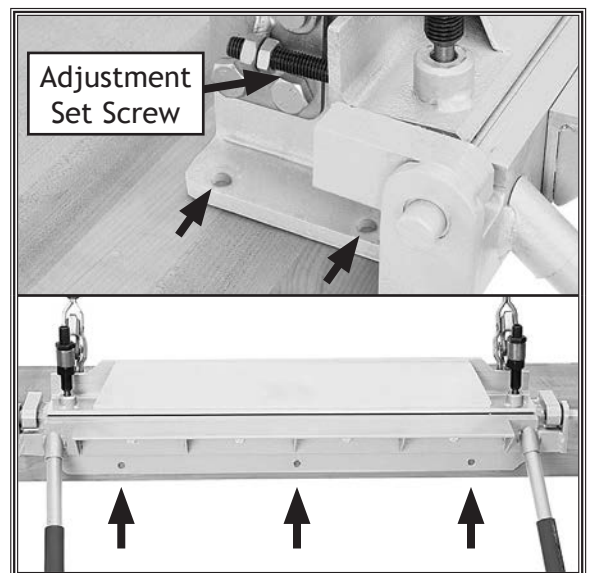

Figure 3. Mounting hole locations (right side of bending brake not shown).
1. Securely mount the bending brake assembly to a workbench or other stable surface using 8mm hex bolts, flat washers, lock washers and hex nuts. Mounting hole locations are indicated in **Figure 3**.
3. Mount each clamp as shown in **Figure 4** on the next page. Ensure that each adjustment set screw shown in **Figure 3** is towards the outside of the bending brake assembly. Secure with hex bolts, lock washers and hex nuts.